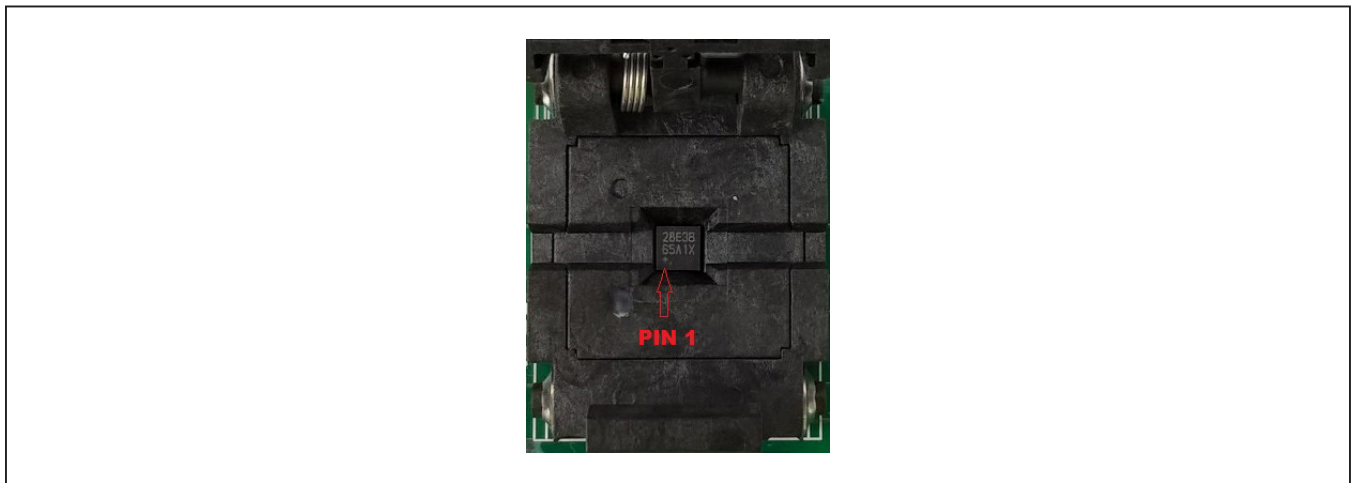

Figure 9. Orientation of the DS28E38 and DS2476 in the Burn-In Socket
- a) (Optional—Perform only if using the coprocessor): Open the 1st socket and insert a DS2476 into one of the cavities, as shown in Figure 9. **Note:** The plus (+) on the package must be on the opposite side of the marker in the socket.
- b) Open the 2nd socket and insert a DS28E38 into one of the cavities, per the same orientation shown in Figure 9.